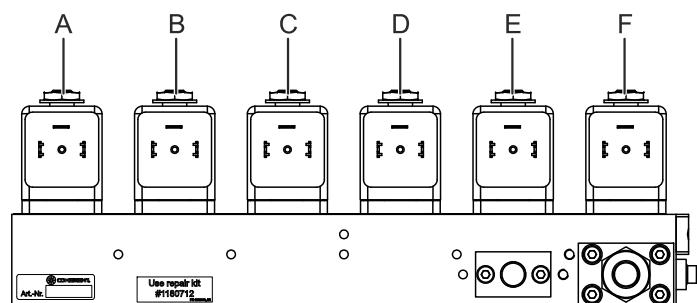

Figure 104: Configuration of the solenoid gas valve block
1. Identify the position of the valve which is to be replaced (see Figure 104) and open the bag containing the corresponding replacement valve.
- Use part no. 1146317 to replace a rare (B) or halogen (C) valve.
- Use part no. 1146319 to replace a buffer (A), inert (D), laser head (E) or vacuum (F) valve.